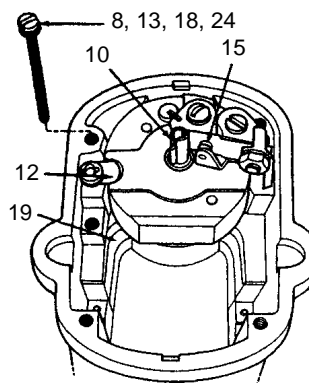

Figure 1
- (1) Check for rust and corrosion on screws (8, 13, 18, 24), bearing cap hold down clamps (12), rotor shaft (10), breaker point assembly (15), frame and coil laminations (19), etc. See Figure 1. Rust and corrosion are signs of contamination and require component cleaning or replacement (reference paragraphs 3.B and C of this bulletin and Slick Maintenance and Overhaul Manual L-1037).